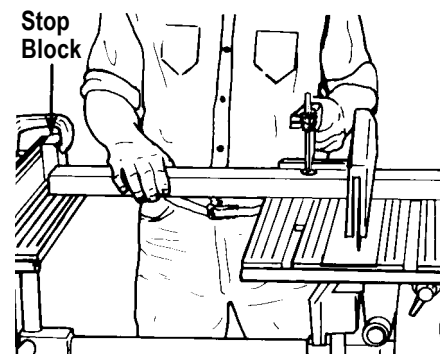

Figure C-5
10. Move the headstock and carriage so that the saw blade is the proper distance from the stop block. Make fine adjustments with the quill feed. Then butt the stock against the stop block and clamp the stock with the safety grip. See Figure C-5.